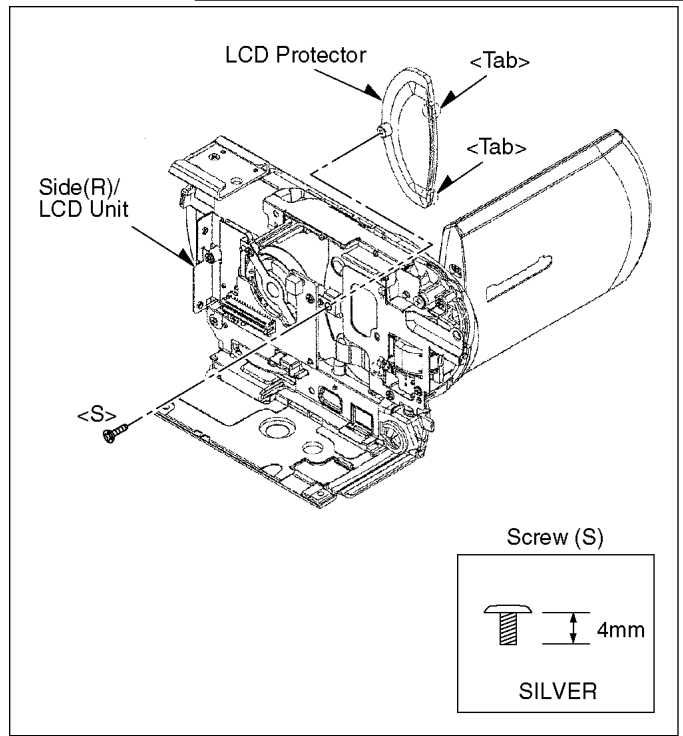

Fig. D14
| 11 | Side(R) Unit | Fig. D14 | 1-Screw (S) LCD Protector |